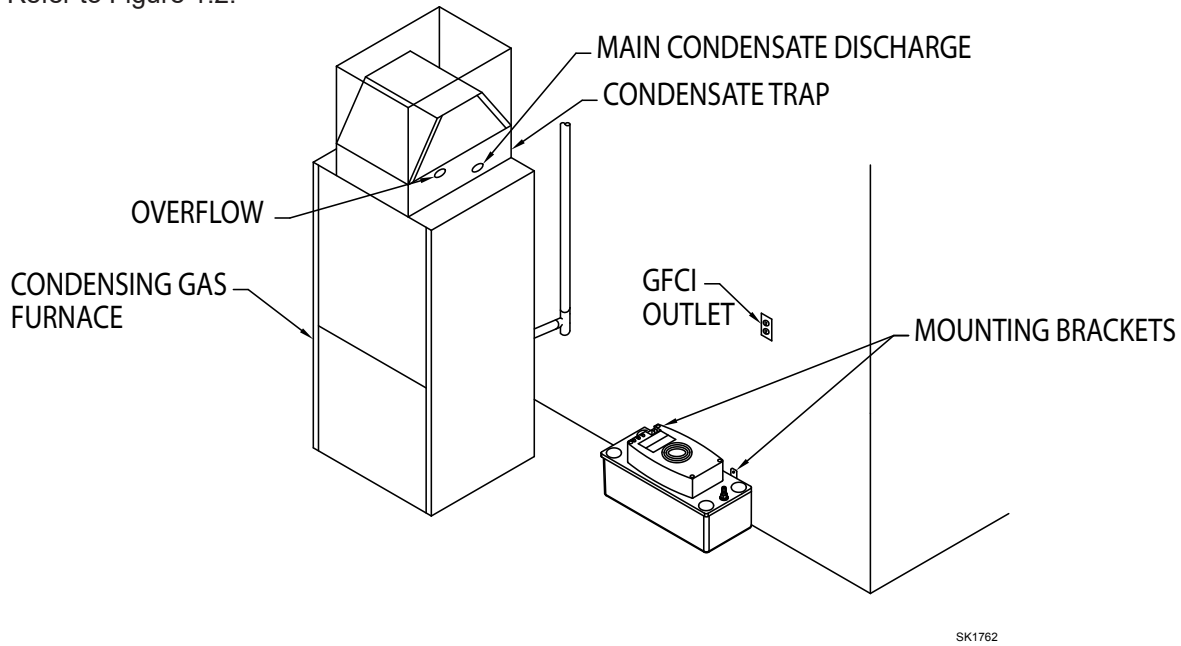

Figure 1.2
- 1.2) The unit has two brackets built into the deck so that it can be installed to the wall or side of the appliance. Refer to Figure 1.2.